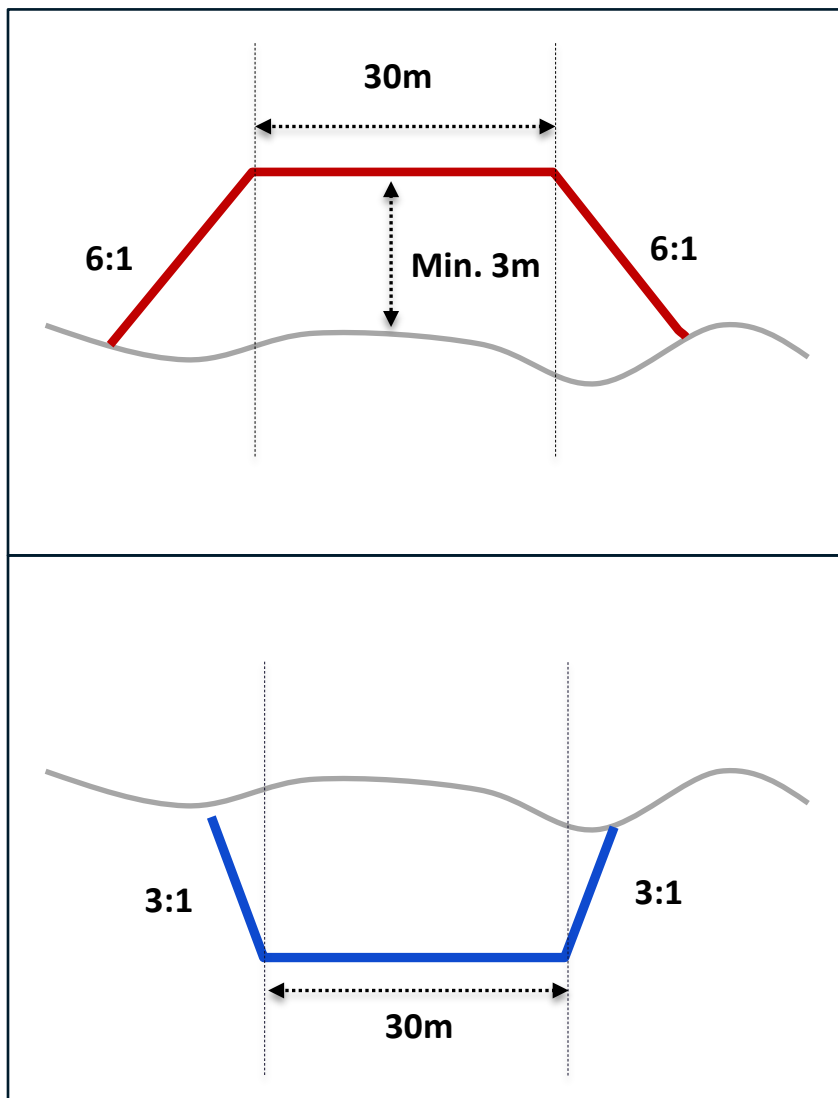
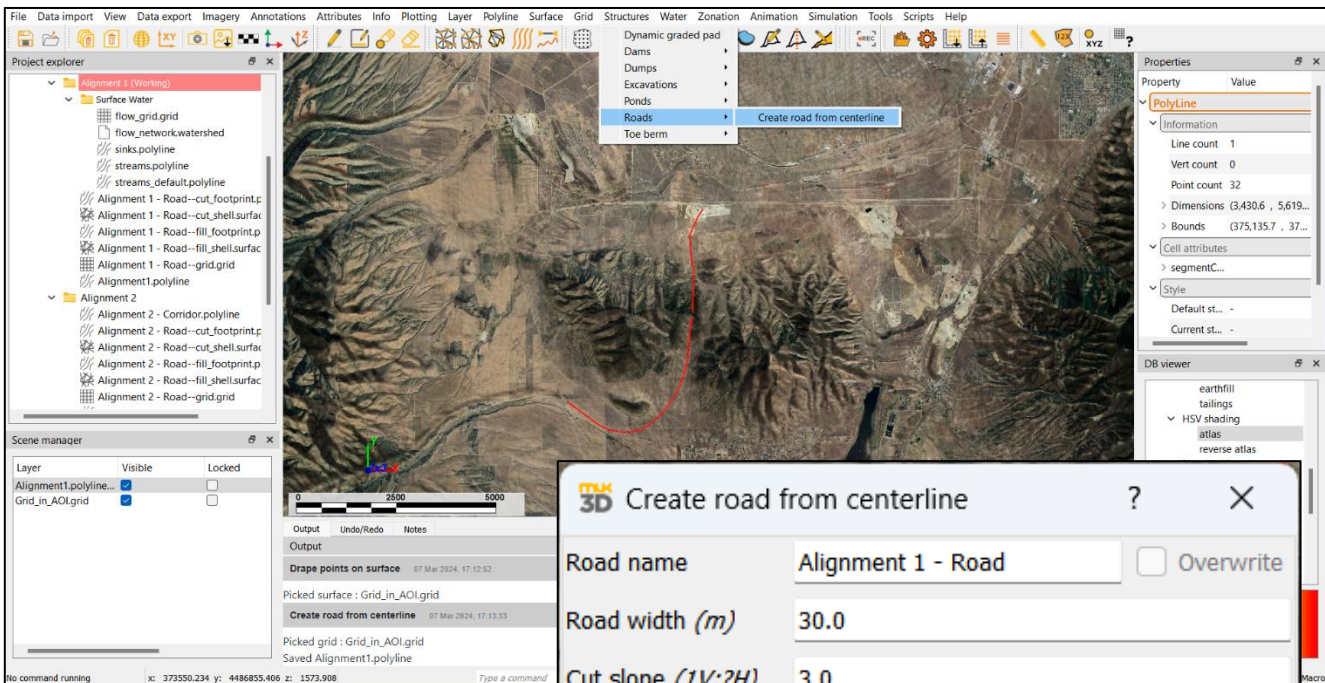

Figure 1: Road design in cross-section when placing above current topography (top) and excavating below current topography (bottom)
Figure 17: Create Road from centerline function
For the purposes of displaying the earthwork planning tools within *Formation*, this paper will run through the process of planning, the earthworks portion, for a road that conforms to the specifications outlined below in Figures 1 to 3.
We can see in figure 1 below, the cross-section of the road design. On top, we see the cross-section in situations where we would be placing fill above the topography to build the design. Below, we see the cross-section where we would be excavating material to build the design.
From figure 1, we can see that the running surface will be 30 meters wide with no grade. However, when placing material or in a 'fill' situation, the material will need to be placed with 6 to 1 side slopes. Also, a minimum thickness of 3 meters of fill will be required. When material is being excavated, or in a 'cut' situation, the excavation needs to be done at a 3 to 1 side slope. There is no minimum excavation depth however.
Load your road alignment or centerline file. At this stage, we want to account for the minimum 3 meters of fill requirement outlined in Figure 1. The process will be as follows:
Now we will construct and merge the initial road surface into the topographic grid. Go to **Structures > Roads > Create road from centerline** (Figure 17). Given the specification laid out in Figure 1, we set:
-cut_shell: full cut surface, along chosen centerline, as per specs entered in ‘Create road from centerline’ input window in Figure 17.
-fill_shell: full fill surface, along chosen centerline, as per specs entered in ‘Create road from centerline’ input window in Figure 17.